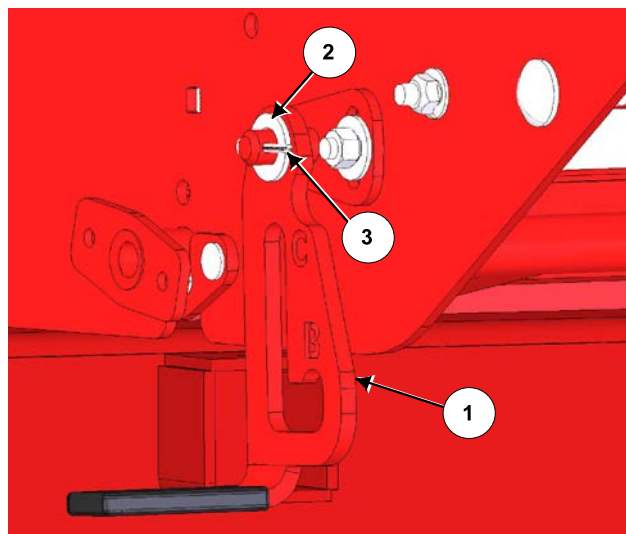
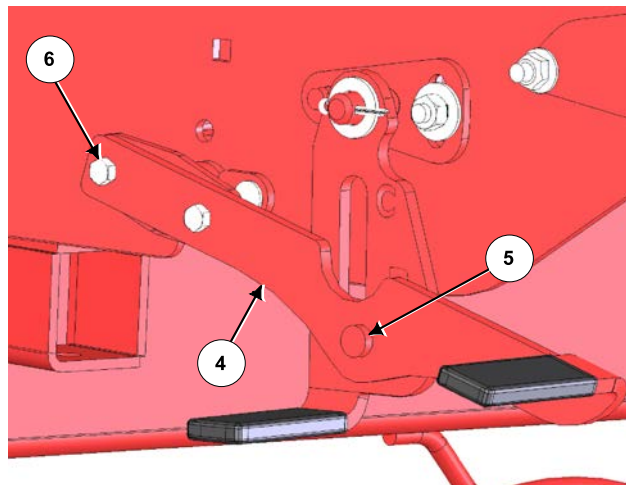

Figure 11: Install the Door Latch Handle
Figure 12: Install the Door Handle
11. Install the door latch handle, see *Figure 11*.
- Place the handle (1) onto the pin of the latch mount.
- Place a 3/4" hardened washer (2) onto the pin.
- Place a cotter pin (3) into the pin to fasten the handle (1).
12. Install the door handle (4), see *Figure 12*.
- Place a 3/4" hardened washer onto the pin (5) located on the back of the handle.
- Push the pin into the slot of the latch (1), see *Figure 11*.
- Fasten the handle to the door follower with 2 of hex 3/8" x 1" bolts and stover nuts (6), see *Figure 12*.
- Place a 3/4" hardened washer (7) onto the pin (5) against the backside of the slot on the latch. Fasten with a 3/16" x 1-1/2" cotter pin (8), see *Figures 12 and 13*.